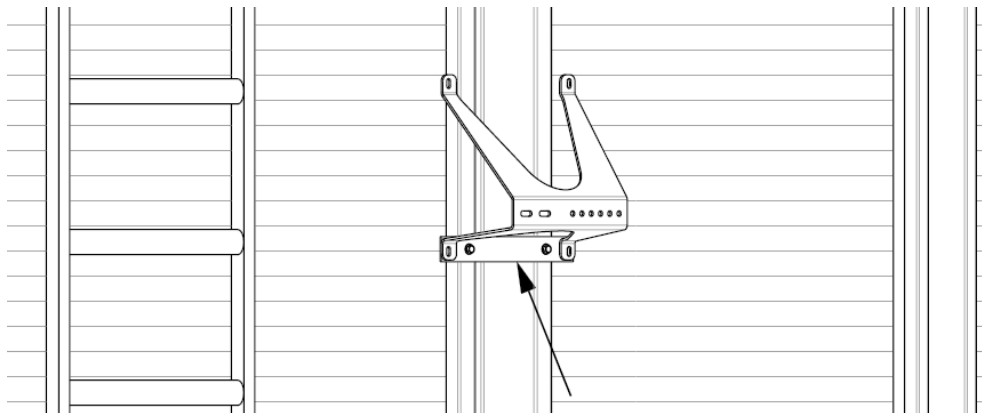

Figure 9: Proper stand-off bracket orientation with lower flat bar
- a. Identify the required position of the first stand-off bracket. Note that the longer angled legs must be positioned upwards, as seen in **Figure 9**. Ensure the bracket is level.